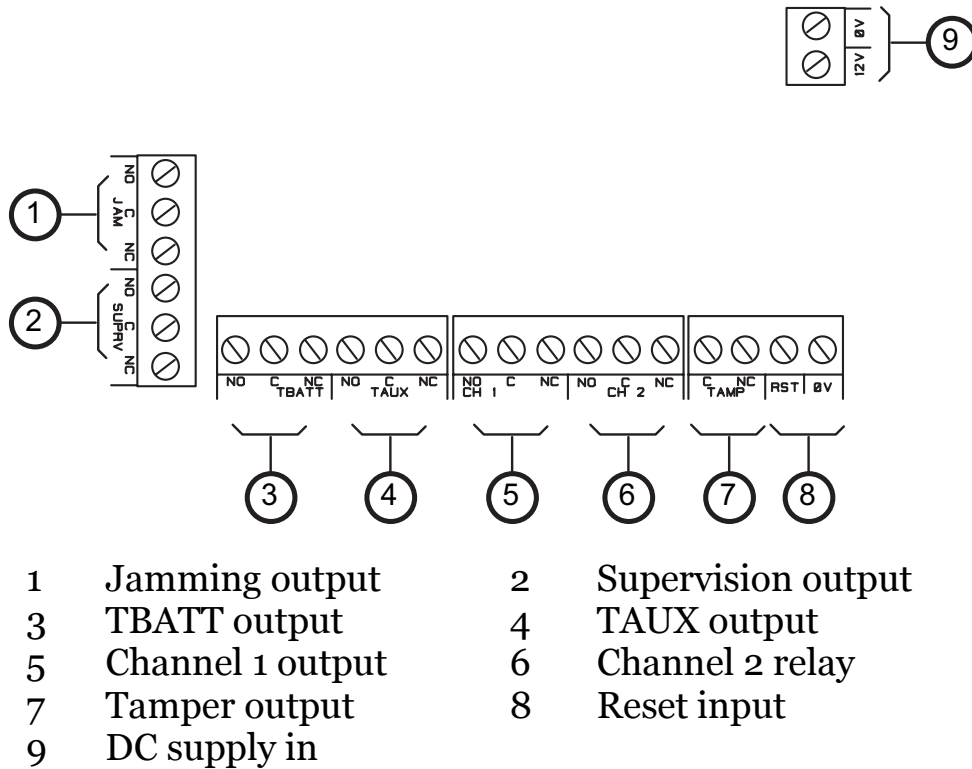

Figure 5. PCB Main Connector.
Each 762r has a connector for an external reset signal (see Figure 5). By applying 0VDC to the reset input you can reset the 762r.
The 762r provides seven output relays. Figure 2 shows their position and Figure 5 shows the connectors. The Normally Open, Normally Closed and Common Terminals of the relays provide voltage free change over contacts.
You may connect the 762r to a control panel either from the connectors on the main circuit card. Figure 5 shows in detail the connectors available on the main PCB.
1. Connect a suitable 12VDC power supply to the DC supply in connector (see Figure 5).